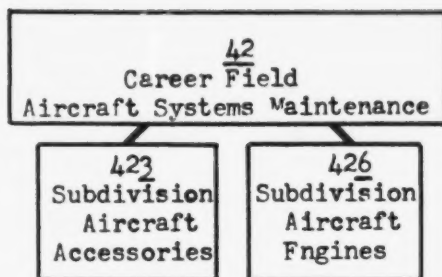

Figure 1-1. Career field.
Aircraft Systems Maintenance Career Field. Under the Air Force career program, all personnel must be classified—i.e., placed into related groups. As an example, it would not be logical to place a cook in the same career field as yourself. The Aircraft Systems Maintenance Career Field (42) in which you are assigned does exactly as its name implies; the personnel in this career field work on aircraft systems. Hence, a career field is a grouping of related AFSs involving basically similar knowledges and skills. The 42 career field is divided into two subdivisions, which are the Aircraft Engines and Aircraft Accessory Systems (see fig. 1-1).